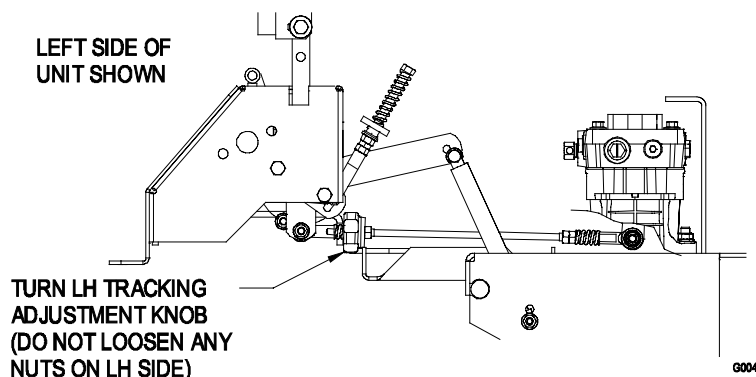

FIGURE 12
- i) Bring the LH motion control lever into the neutral position. Adjust the LH pump control rod length by rotating the tracking adjustment knob in the appropriate direction until the wheels slightly creep in reverse. Move the motion control lever to the reverse position and while applying slight pressure to the lever allow the reverse indicator spring to bring the levers back to neutral. The wheel must stop turning or slightly creep in reverse. See Figure 12.